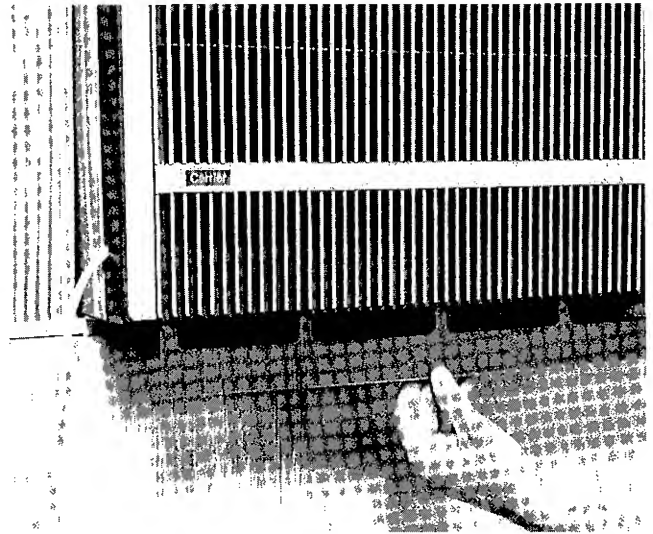

Fig. 3 — Removing Filter
- 2 **Filter** — Filter can be removed without having to remove grille insert. Grasp bottom edge of filter (located behind grille insert) and gently pull filter down and slightly toward you. See Fig. 3. Filter may be vacuumed, or washed in warm water. Shake filter to remove excess water, dry thoroughly and replace by sliding filter upward behind front grille until filter snaps in place.